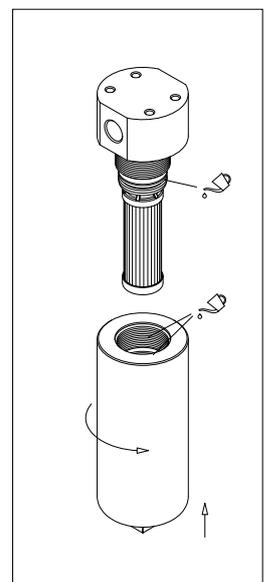

fig. 11
- (Fig. 11) Lubricate the thread and the O-ring of the bowl, then screw the bowl in referring to the tightening torque table in paragraph 3